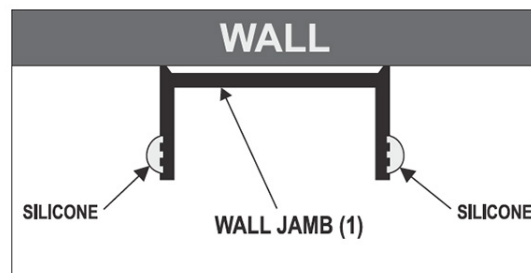

FIGURE 7
Once all six #10 x 2" Wall Jamb Screws (F) are securely in place, apply bead of silicone to the outside ribbed edge of Wall Jamb (1) running the entire length of both sides. (See Figure 7)